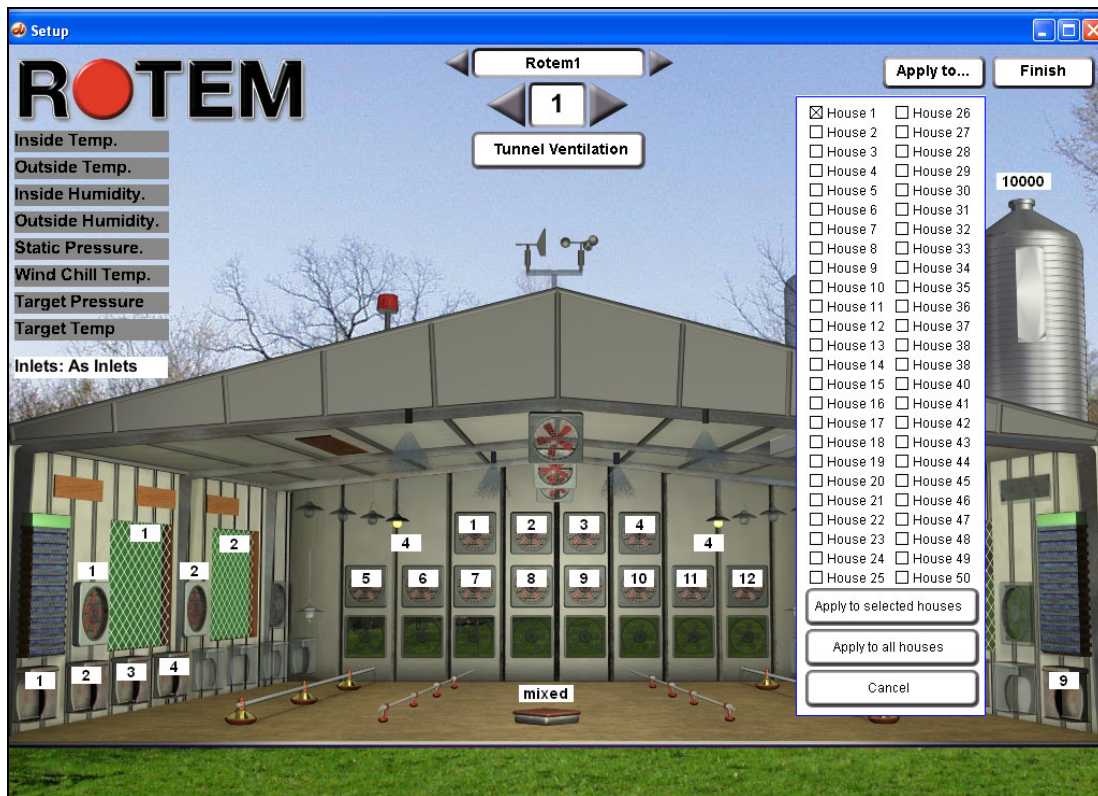

Figure 55: Apply Settings to Other Houses
- s) Click **Apply to** (Figure 55).